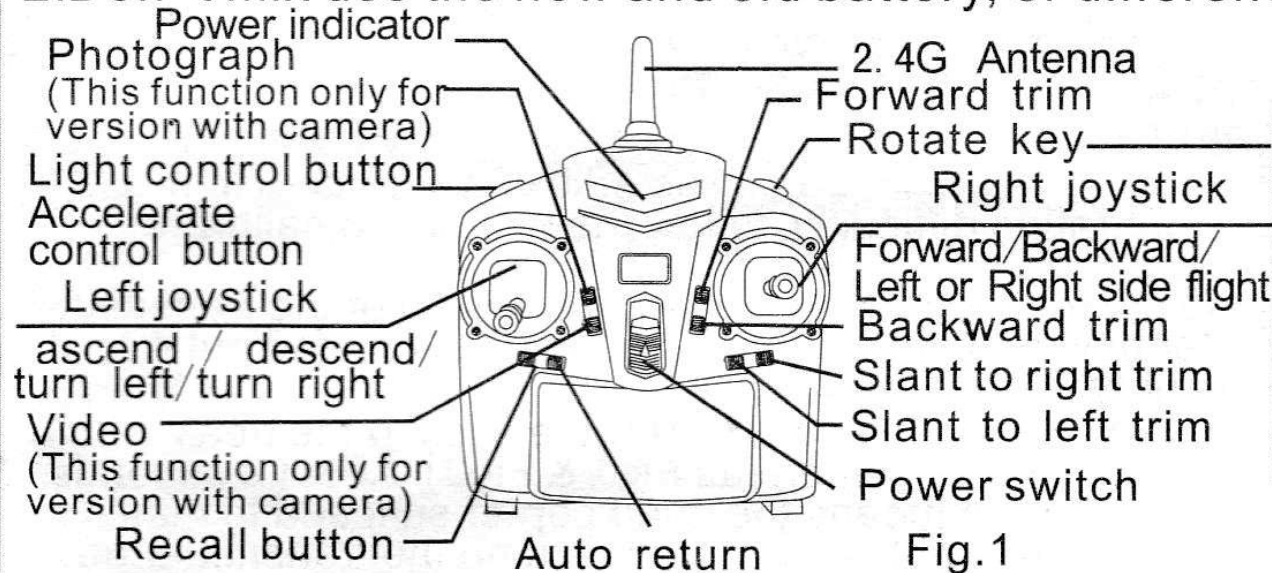

Fig.1
1. Functions of transmitter as Fig. 1